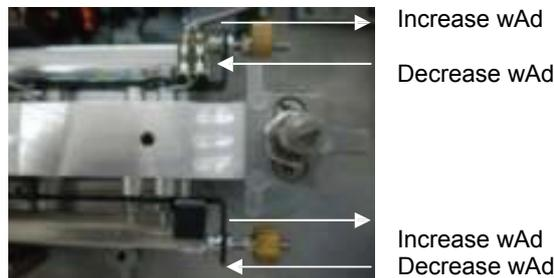

Fig. 4-4
- 8) Repeat the above procedures 5) to 7) to perform adjustment, and when adjustment is complete, use the nut M3 to lock the balance weight (U21). (Fig. 4-4)